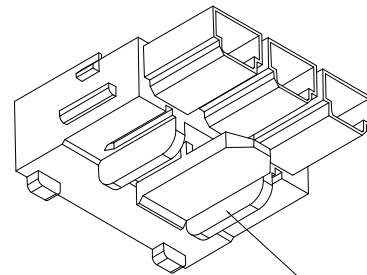

**FIGURE 44 – Removal of Control Cover**
- 1) Remove screws (2) from controls cover and remove panel. See **FIGURE 44 – Removal of Control Cover**.